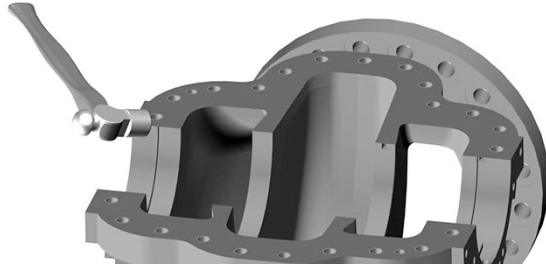

Figure 44: Trimming casing gasket using a bell-peen hammer
- Trim the gaskets flush with the lower casing bores. (see Figure 44)